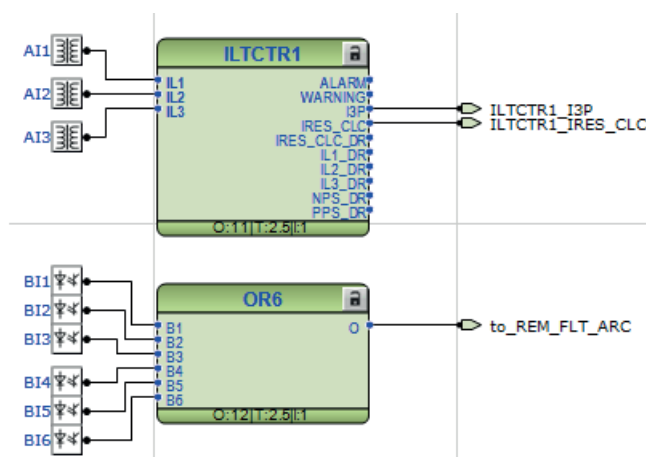
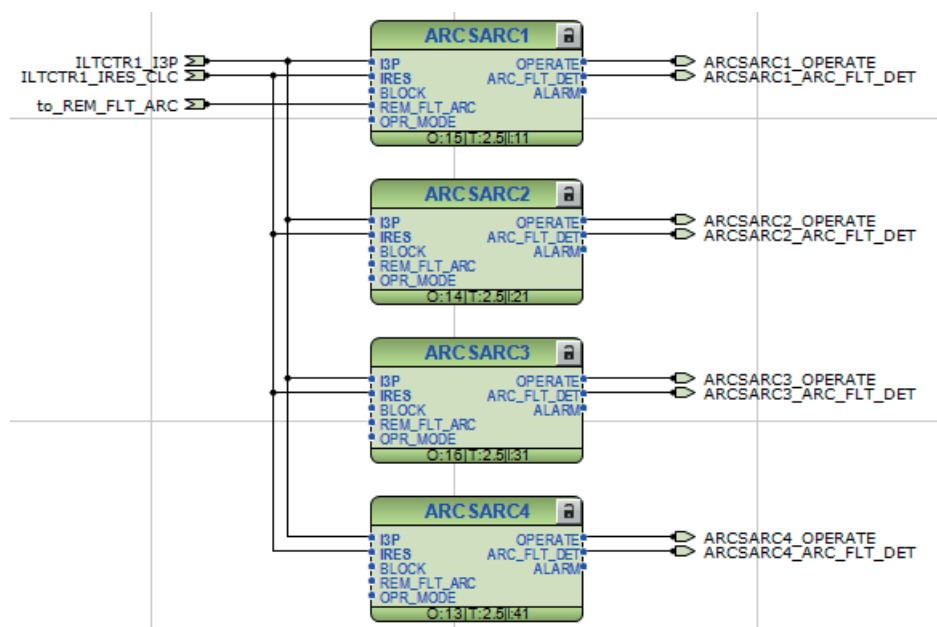
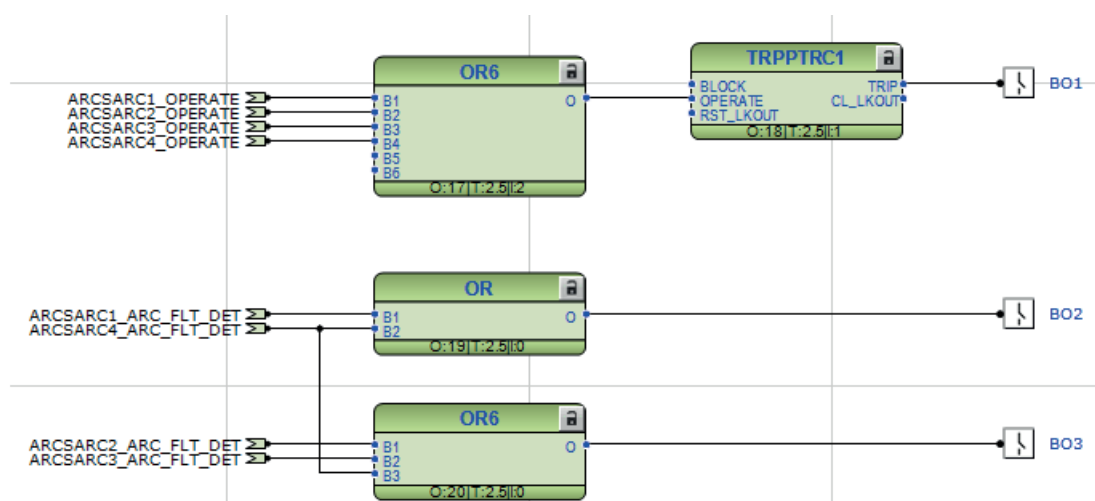

Figure 70: Relay inputs and preprocessing connections
Figure 71: Application function block connections
Figure 72: Relay output connections
The relay configuration is implemented with Application Configuration in PCM600 and it is shown in Figure 70, Figure 71 and Figure 72. The functionality implements the conceptual logic, but it is designed taking into account the relay's function blocks and their features.
- 1) Arc light sensor inputs ARC1...4 are always internally routed to ARCSARC1...4 function blocks. These inputs are not visible in Figure 70.
The configuration also requires other dedicated functions which are listed in Table 161. Additionally, some logic gates are needed for implementing the necessary logic. These are visible in Figure 71 and Figure 72.